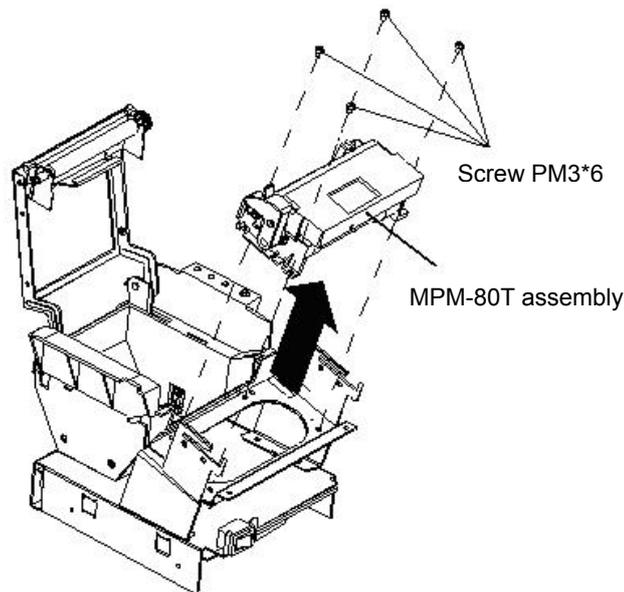

Figure 5-9
Step1. As Figure 5-9 shown, loosen the screws PM3*6.